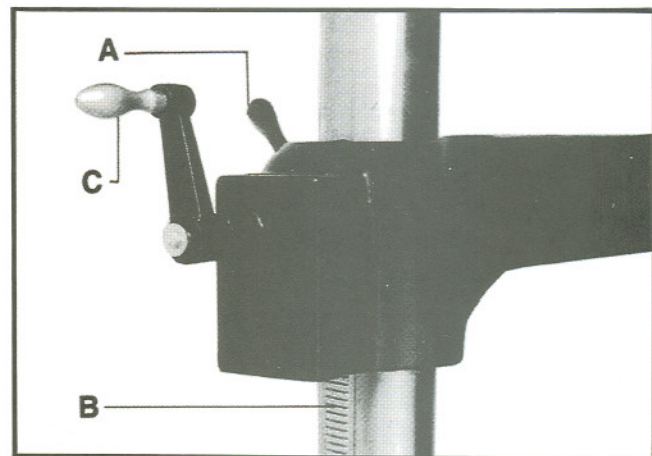

Fig. 3
1. Tighten the table lock handle (A, Fig. 3).
3. Raise the rack (B, Fig. 3) to the desired level by turning the table raising handle (C, Fig. 3).